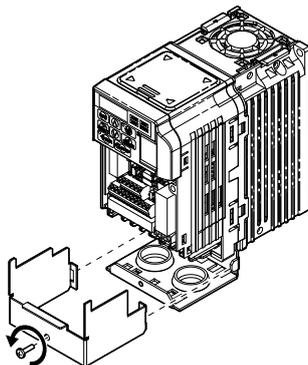

Figure 8 Remove the NEMA Type 1 Terminal Cover (Models BA0001F to BA0003F and 2A0001F to 2A0006F)
6. For IP20/NEMA Type 1 enclosure models CIMR-V□□□□□F, loosen the screw on the front of the NEMA Type 1 terminal cover and remove it from the drive. Refer to Figure 8 for details.